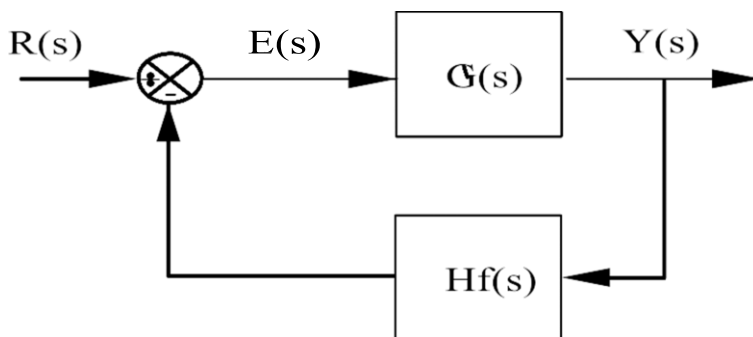

FIGURE 1.7 Feedback control model
7. Consider the Feedback loop shown in Figure 1.7 of the Robot Control paper on the WEB site: